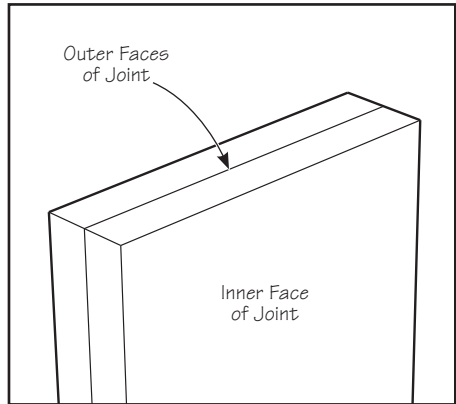

Figure 5: Place boards face to face, carefully aligned for layout. You might want to clamp them together to ensure they don't move.
2. Place the two parts to be joined outer face to outer face as shown below (**Figure 5**). Marking each piece and identifying the outer faces will help as your project progresses.